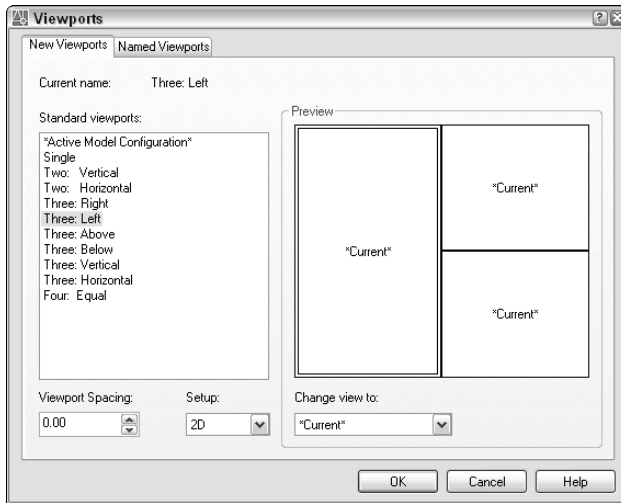

Figure 17-10: Use the Viewports dialog box to choose one of the standard configurations of floating viewports.
- ♦ **New Viewports:** Choose this item to open the Viewports dialog box, shown in Figure 17-10. Choose one of the standard configurations, which you can see in the Preview box. Click OK to create the viewports.